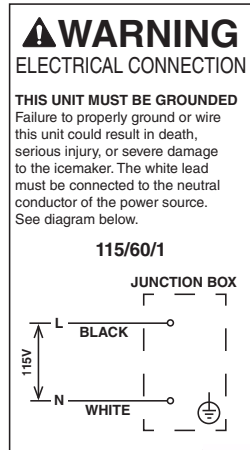

Fig. 3
- Electrical connections must be made in accordance with the instructions on the "WARNING" tag, provided with the pig tail leads on the junction box. See Fig. 3.